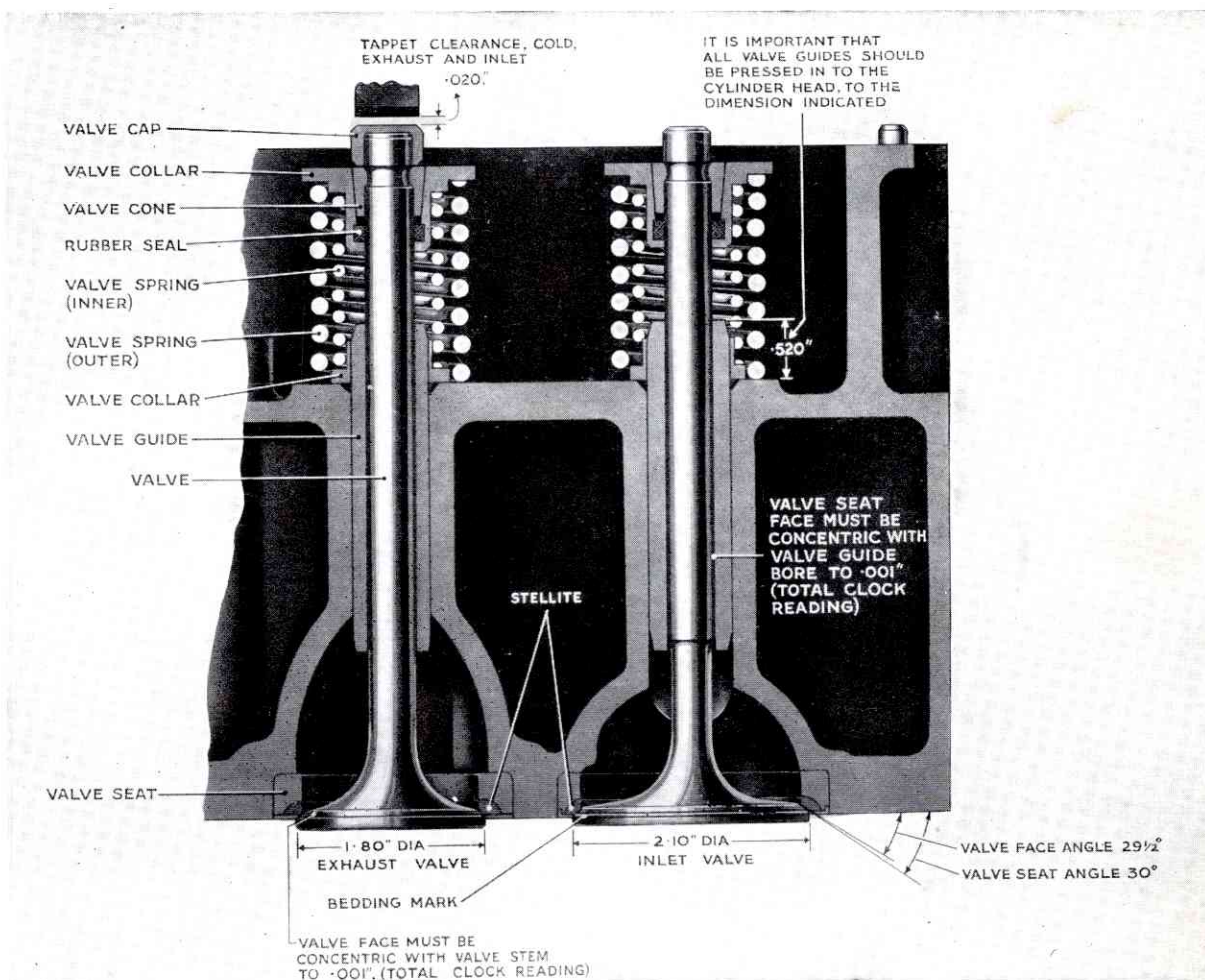

FIG. 24. VALVES, SPRINGS AND VALVE SEATS IN POSITION ON 0600 ENGINE
On 0600 engines, shrunk in type Valmet valve seat inserts are fitted in both the exhaust and inlet recesses, whilst on 0680 engines the exhaust seat is a Valmet insert and the inlet seat is cut in the cylinder head, see Figs. 24 and 29.
2. The valve guides are an interference fit in the heads and must be pressed in and out when replacements are necessary. See Fig. 24 for position of valve guide in head.
4. When the valves and seats have been re-cut, or when the valves and seats are in good condition, they should be lightly lapped together to give a perfect seating. The seating mark should be a thin line towards the top of the seat, Fig. 24.